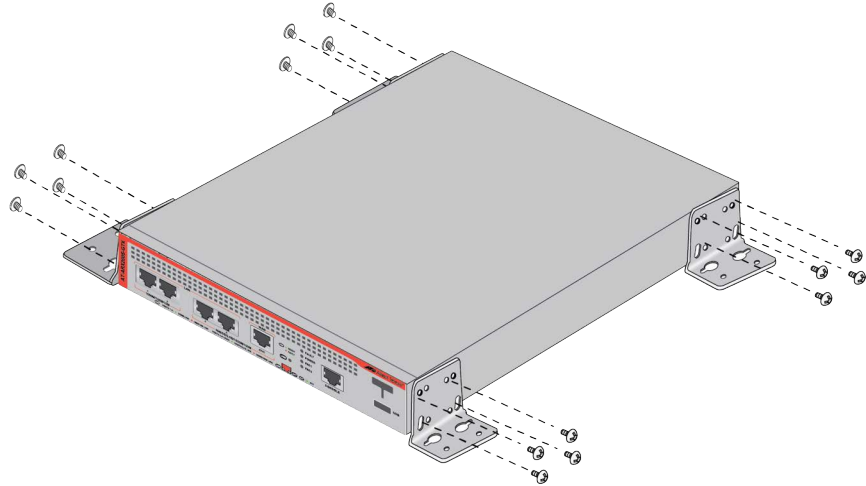

Figure 48. Attaching the AT-BRKT-J24 Wall Brackets to the ARX200S Router Series
4. Attach the four AT-BRKT-J24 wall brackets to the sides of the router, with the sixteen M4x6mm screws in the brackets kit. Refer to Figure 48 on page 82.
4. Install the four AT-BRKT-J24 wall brackets to the sides of the router with the sixteen M4x6mm screws included with the brackets. Refer to Figure 48 on page 82.